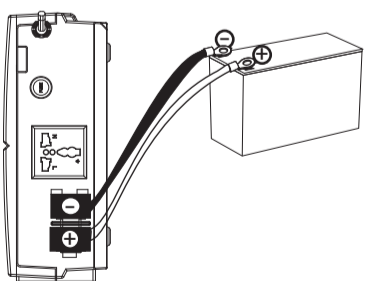

Fig. 1
1)Single battery connection(Refer to Fig. 1):